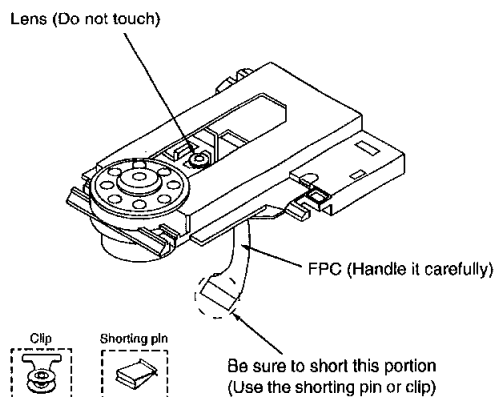

Fig. 1-1.
- To prevent the breakdown of the laser diode, an anti-static shorting pin is inserted into the flexible board (FPC board). When removing or connecting the shorting pin, finish the job in as short time as possible. Refer to Fig. 1-1.